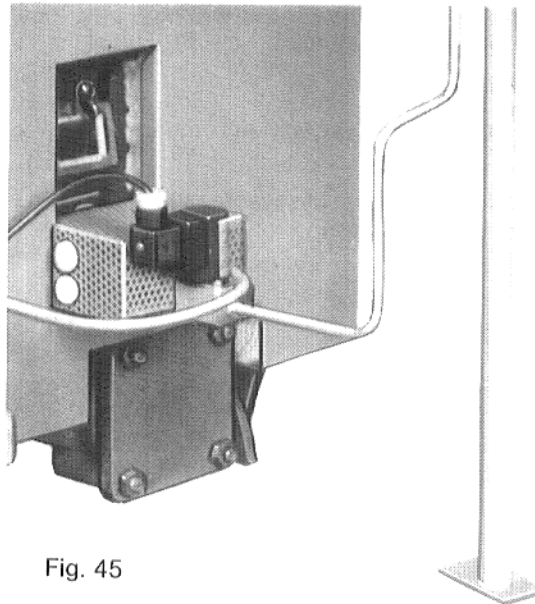

Fig. 45
- Put the slot of the fastening screw for the transparent cover of the control panel into a horizontal position (e.g. with a coin) and push in the transparent cover from the front. Put the screw slot in a vertical position (see Fig. 45).
Poke the **connection leads** through the cable passageways in the upper part of the contact guard (Fig. 45).
Screw the **upper part of the contact guard** to the lower part with 2 fastening screws (Fig. 45).